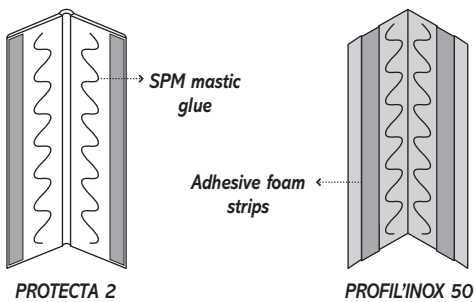

fig.1
- Apply the SPM mastic glue to the surface of the profile as shown in the drawing below (fig.1).